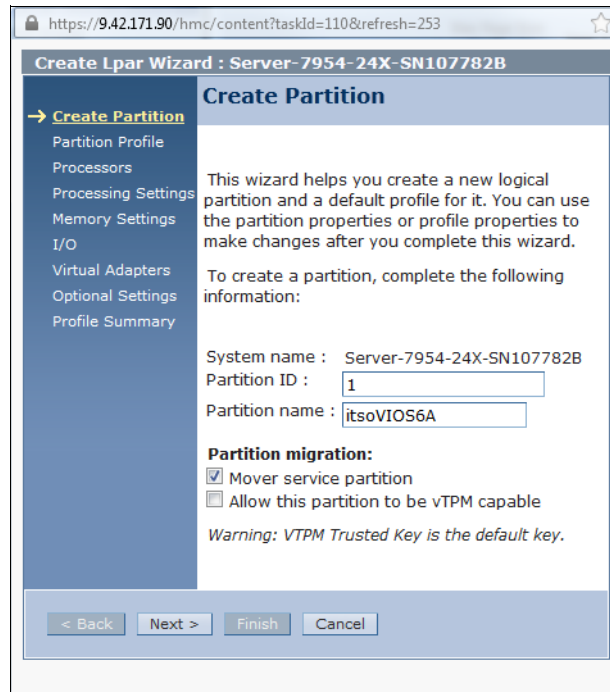

Figure 8-27 HMC Create Partition window
- From the list that is shown under tasks, expand **Configuration/Create Partition**, then click **VIO Server** to open the Create Partition window, as shown in Figure 8-27 on page 376.